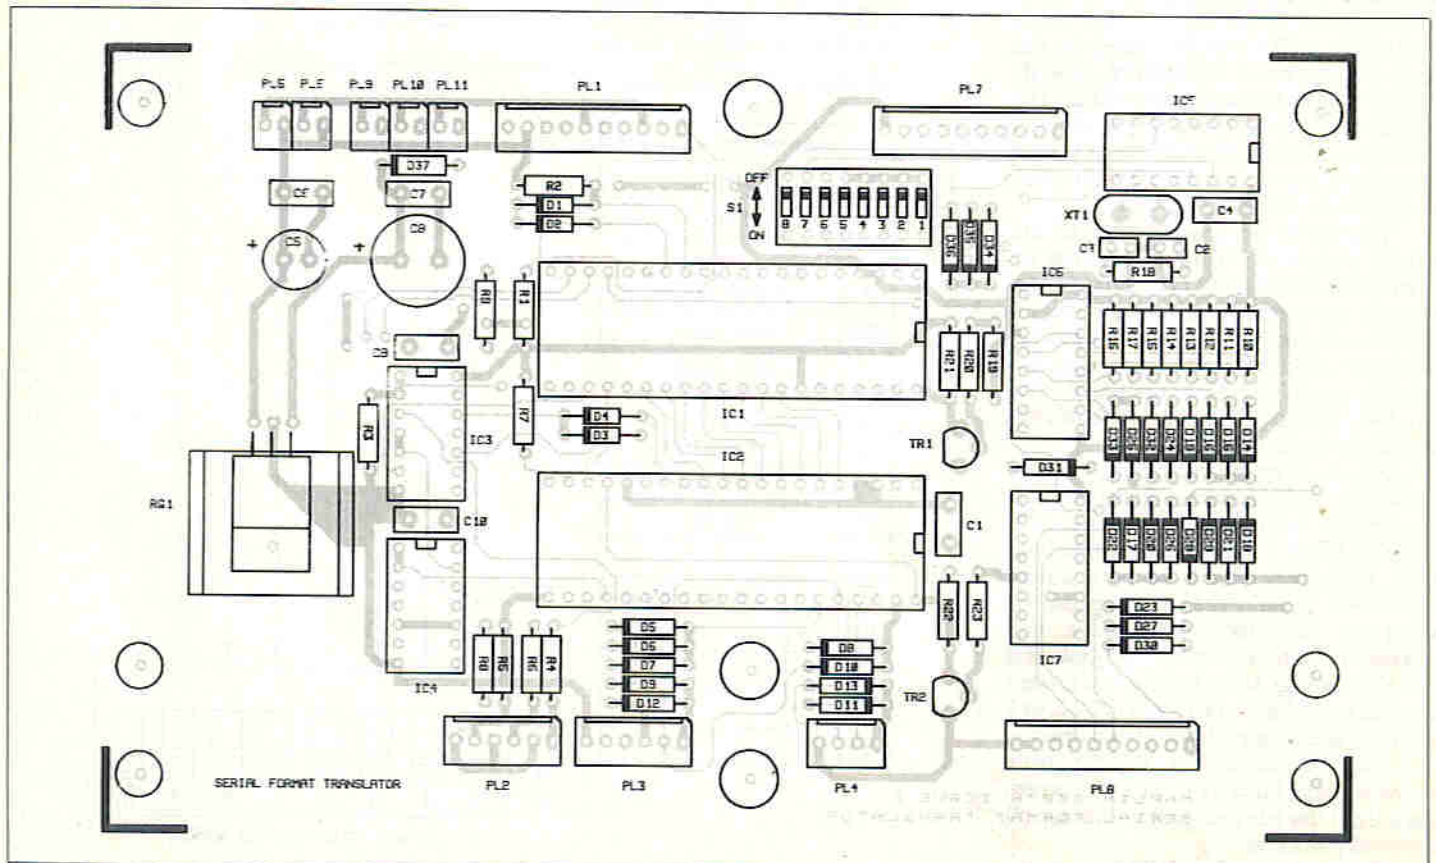

Figure 3. PCB Legend.
The PCB is a double-sided fibre glass type, chosen for maximum reliability and stability. However, removal of a misplaced component is fairly difficult so please double-check each component type, value and its polarity where appropriate, before soldering! The PCB has a printed legend to assist you in correctly positioning each item, see Figure 3.
All The diodes have a band at one end to identify the cathode (K) lead. Be sure to position them according to the legend, where the appropriate markings are shown. Next install the voltage regulator RG1 and its heatsink using the M3 hardware. When fitting the IC sockets ensure that you match the notch with the block on the board. DO NOT install the IC's until the testing stage!! When fitting the 'Minicon' connectors ensure that the locking tags are all facing the correct way, see Figure 3 and Photograph 1.